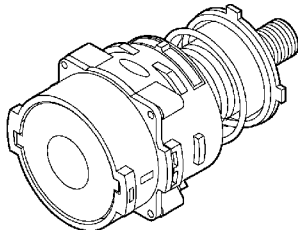

Fig. 10
2. The internal parts of gear box block can be removed one after another. (See Fig. 10)